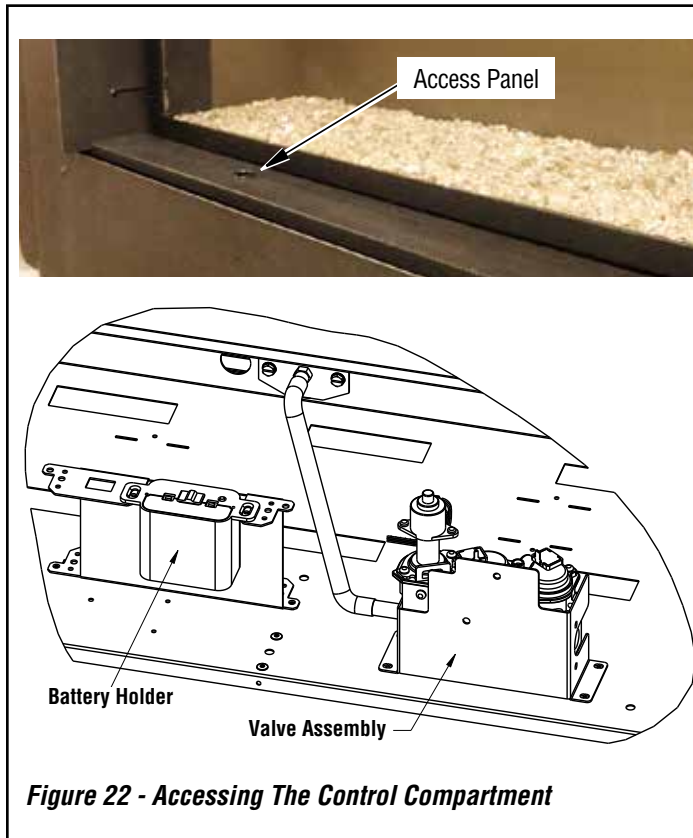

Figure 22 - Accessing The Control Compartment
- Remove the control compartment access panel (*Figure 22*).
1. Remove the barrier and control access cover and locate the battery holder (*see Figure 22*).
2. Install four (4) AA batteries in the battery holder (*see Figure 22*).